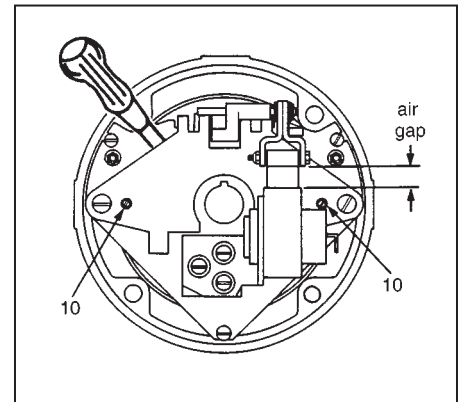

Figure 2
5. Refer to Figures 2 and 3 to replace the existing plunger and link assembly with the kit plunger and link assembly (PP). Insert screwdriver between support plate (126) and lever arm (17). Wedge apart and remove bearing pin (26), bearing (6), pivot pin (131) and solenoid lever (8). The plunger and link assembly is simultaneously removed from the solenoid frame.
6. Remove the plunger and link assembly from the solenoid lever (8) by removing the retaining ring (O). Remove only the outboard spacers (P) necessary to slide the plunger and link assembly off the pin of the solenoid lever (8).
7. Install the new plunger and link assembly (PP) onto the pin of the solenoid lever (8). Reassemble the spacers (P) and the retaining ring (O).
9. Manually lift solenoid plunger to maximum travel. Depress and allow solenoid plunger to snap out several times. Measure solenoid air gap (see Figure 2) between mating surfaces of solenoid frame and solenoid plunger. (On vertically mounted brakes, it will be necessary to push solenoid plunger into solenoid frame to the point where spring pressure is felt, before measuring solenoid air gap.)